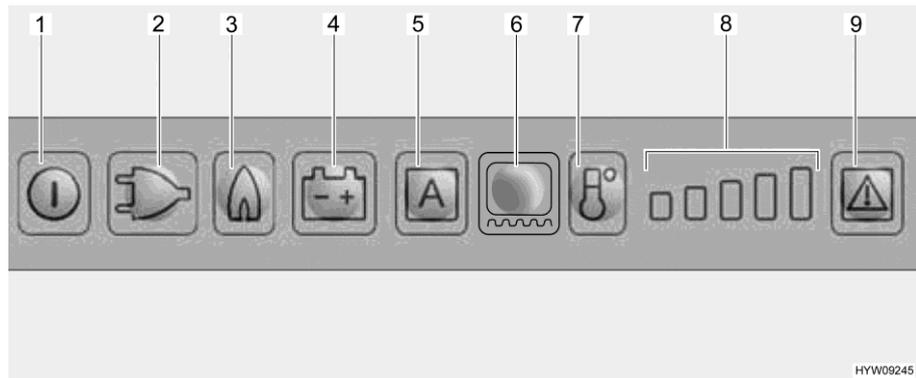

Fig. 240 LED operating panel (Dometic refrigerator)
When selecting gas operation the ignition fuse is opened automatically so gas can get into the burner. At the same time the electronic ignition is activated. If the gas flame is extinguished, e.g. by blast of wind, the ignition is activated immediately and re-ignites the gas. If there is a fault in gas operation, the illuminated buttons for Gas (Fig. 240,3) and Fault (Fig. 240,9) flash and an alarm sounds for 20 seconds.
- Press and hold the On/Off button (Fig. 240,1) for about 2 seconds. The refrigerator switches on and the previously set operating mode is displayed.
- Press the illuminated button for the desired operating mode (Fig. 240,2 - 4) or the automatic mode "AES" (Fig. 240,5) (only in the case of AES version).
- Use the cooling level button (Fig. 240,7) to set the refrigerating temperature. The cooling level indicator (Fig. 240,8) shows the selected thermostat setting.
- Press and hold the On/Off button (Fig. 240,1) for about 2 seconds.
When turned on the first time the refrigerator automatically selects the middle thermostat position. This position can be adjusted manually using the cooling level button (Fig. 240,7). It takes a few hours till the refrigerator reaches its normal operating temperature. When changing over to another operating mode, the thermostat setting is kept.
- Switch on the frame heater for a 2 hour period: Push the frame heater illuminated button (Fig. 240,6) once. One bar is lit on the cooling level indicator (Fig. 240,8).
- Switch on the frame heater for a 5 hour period: Push the frame heater illuminated button (Fig. 240,6) twice. Two bars are lit on the cooling level indicator (Fig. 240,8).
- Setting frame heater for continuous operation: Push the frame heater illuminated button (Fig. 240,6) three times. Three bars are lit on the cooling level indicator (Fig. 240,8).
The cooling level indicator (Fig. 240,8) shows the operating time of the frame heater for several seconds.
In the event of a fault, the illuminated Fault button (Fig. 240,9) will flash. Also, either one of the illuminated buttons for operating mode or the cooling level indicator will flash. In addition, a warning signal will sound. For instructions on the display of errors and troubleshooting, see chapter 15.
- ▷ After eliminating a fault of the gas operation, press the illuminated Reset button (Fig. 240,9).